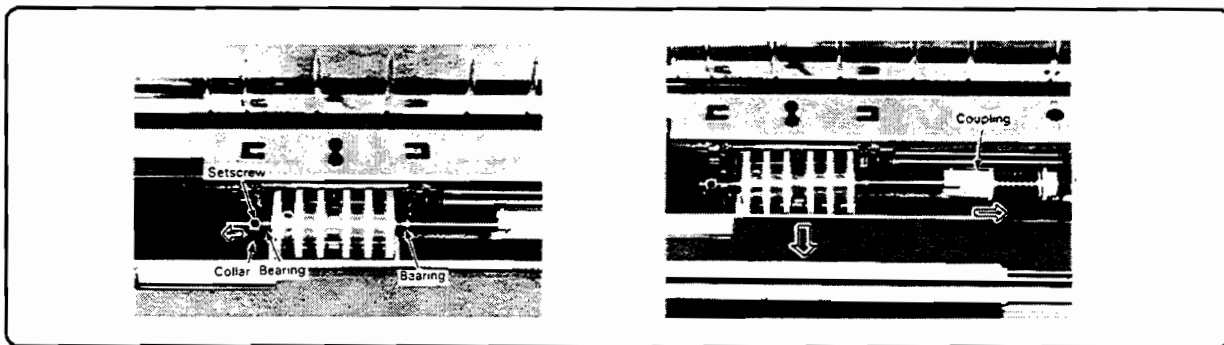

Figure 6-161. Upper Separation Roller Removal
2. Loosen the set screw, and remove the collar (Figure 6-161). (The holding tray lamp (LA1) cover plate may be removed for better access to the collar.)
3. Remove the bearings of the Upper Separation Roller shaft from the mounting plate (Figure 6-161).
4. Press the coupling to remove it from the Upper Separation Roller shaft, and remove the Upper Separation Roller shaft (Figure 6-161).